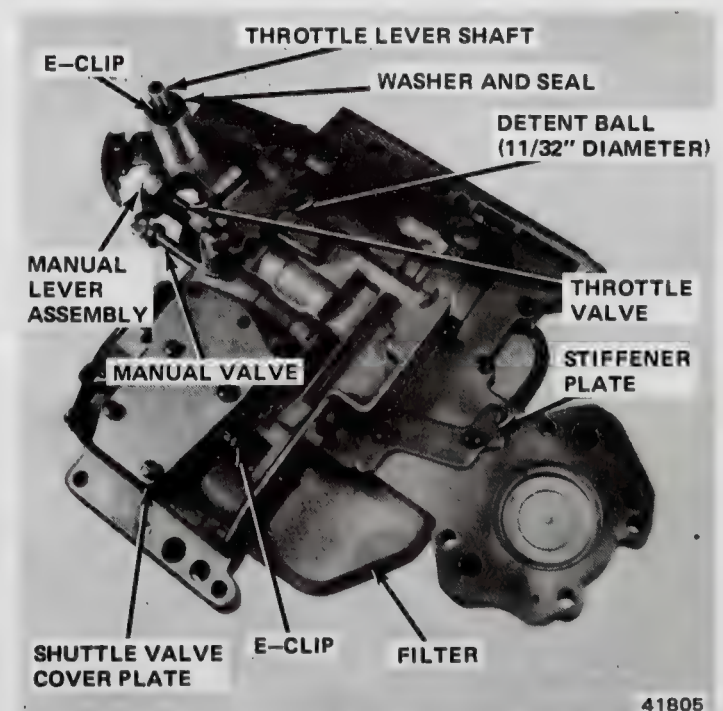

Fig. 2C-46 Valve Body Controls—Model 904
- (9) Remove check balls and spring from valve body (fig. 2C-45).